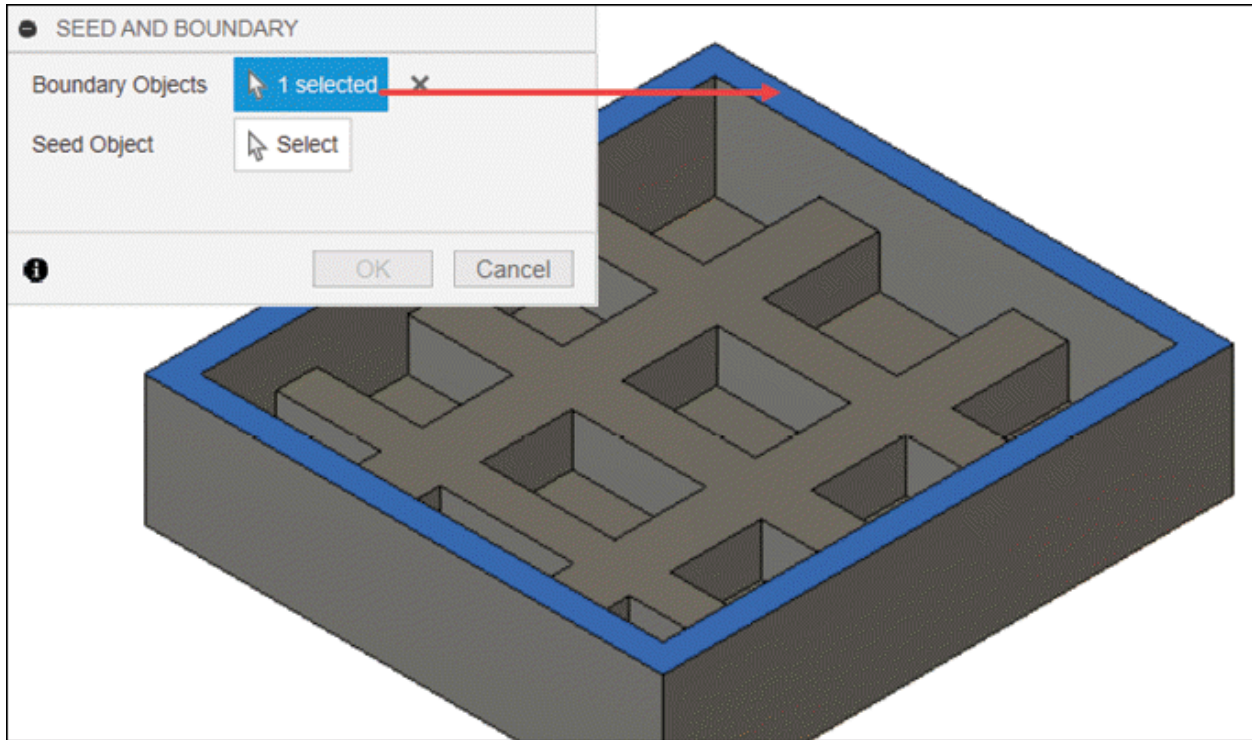

Figure-22. Boundary face selected
- Select the face of model to be used as boundary for selection. (No objects outside this boundary will be selected by the tool). On selecting face for boundary, the **SEED AND BOUNDARY** dialog box will be updated and selection button for seed object will be displayed; refer to Figure-22.